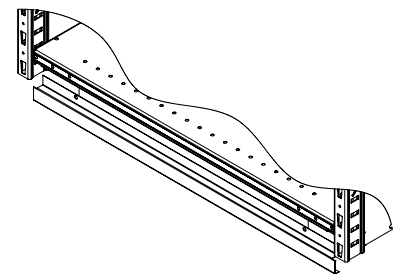

FIGURE 9
3C. Bolt base strip to bottom shelf, Figure 9. Use (2) 1/4-20 x 1-1/4 truss head bolts and nuts.